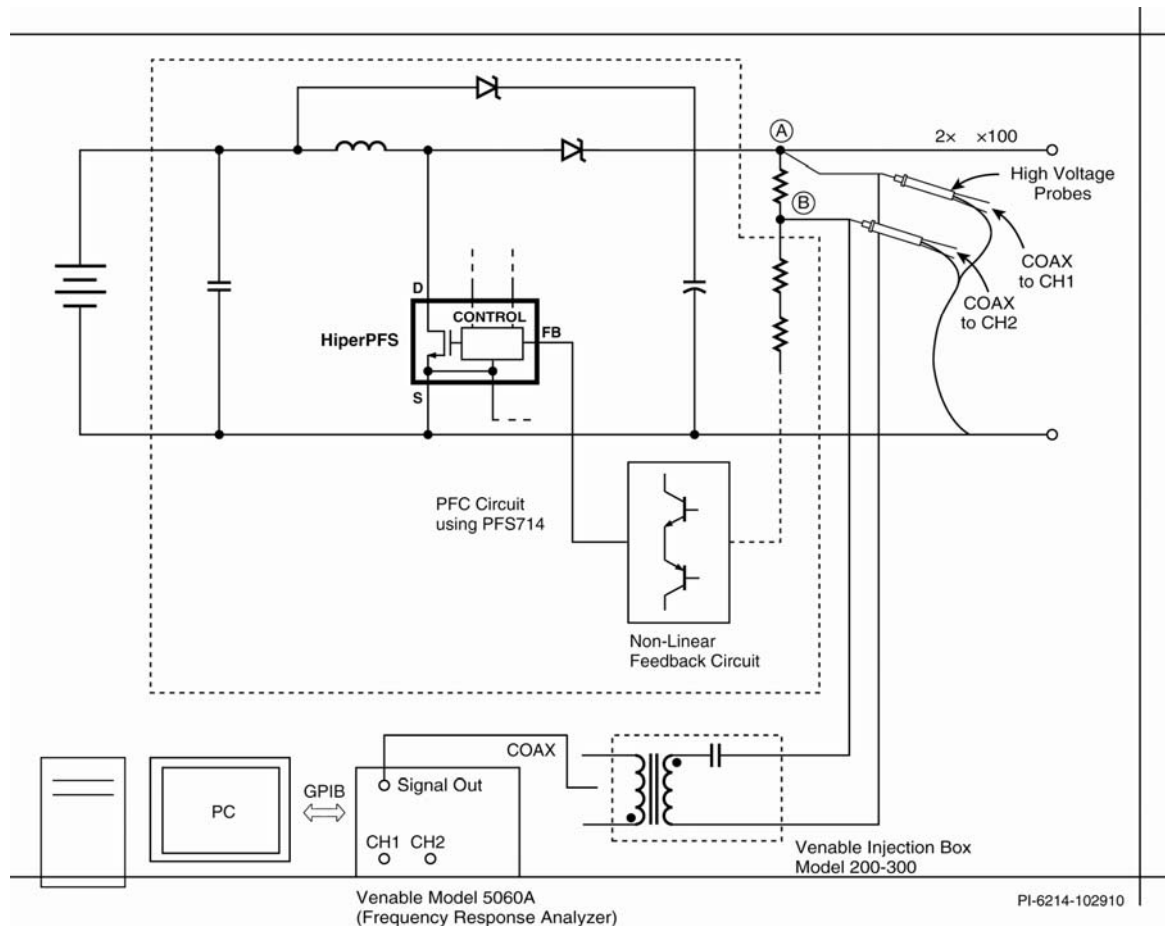

Figure 64 – System Test Setup for Loop Gain–Phase Measurement.
- The PFC stage is supplied from an adjustable DC source for this test. Connect the circuit as shown in Figure 64. Open the top end of the feedback divider network and insert a 100Ω – $2W$ resistor in series as shown. The signal injected in the loop for gain–phase measurement will be injected across this resistor.